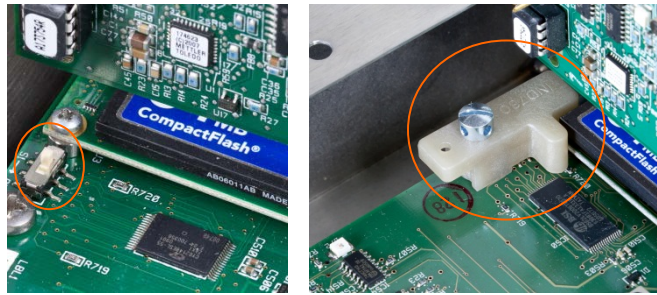

Figure A-91: Metrology Security Switch (left) and Cover Installed (right)
8. Install the Security Cover to prevent access to S1, the Metrology Security Switch indicated in Figure A-91, Main PCB Switches.